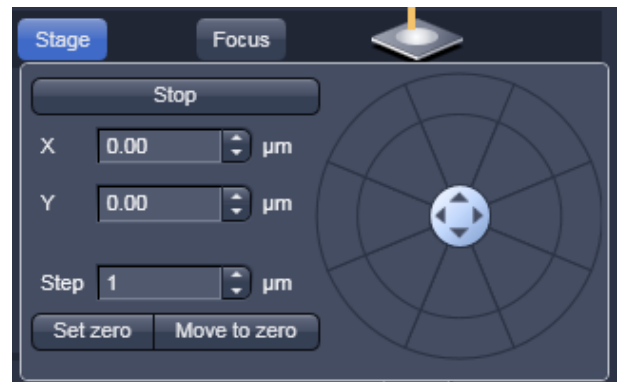

Fig. 354 Locate - Microscope Control tool, Stage
**Stage** button: If the stage button is pressed, the Stage control panel will appear (Fig. 354). By pressing the **Stop** button you can interrupt any stage movement. The **Move to Zero** button will move the stage to the current zero positions of the x and y coordinates. The compass rose will move the stage in the direction of the arrowheads. Fast movement is obtained with the outer rose, slow movement with the inner rose. The **X-Position (µm)** and **Y-Position (µm)** display boxes show the actual x and y coordinates. You can edit the numbers by typing or using the arrowheads. If numbers were altered, the first click on the compass rose will bring the stage to the altered position. The **Step Size (µm)** display box show the currently use step size for stage movement. The value can be edited by typing or using the arrowheads. The **Zero Position Set** button set sets the x and y coordinates to 0.